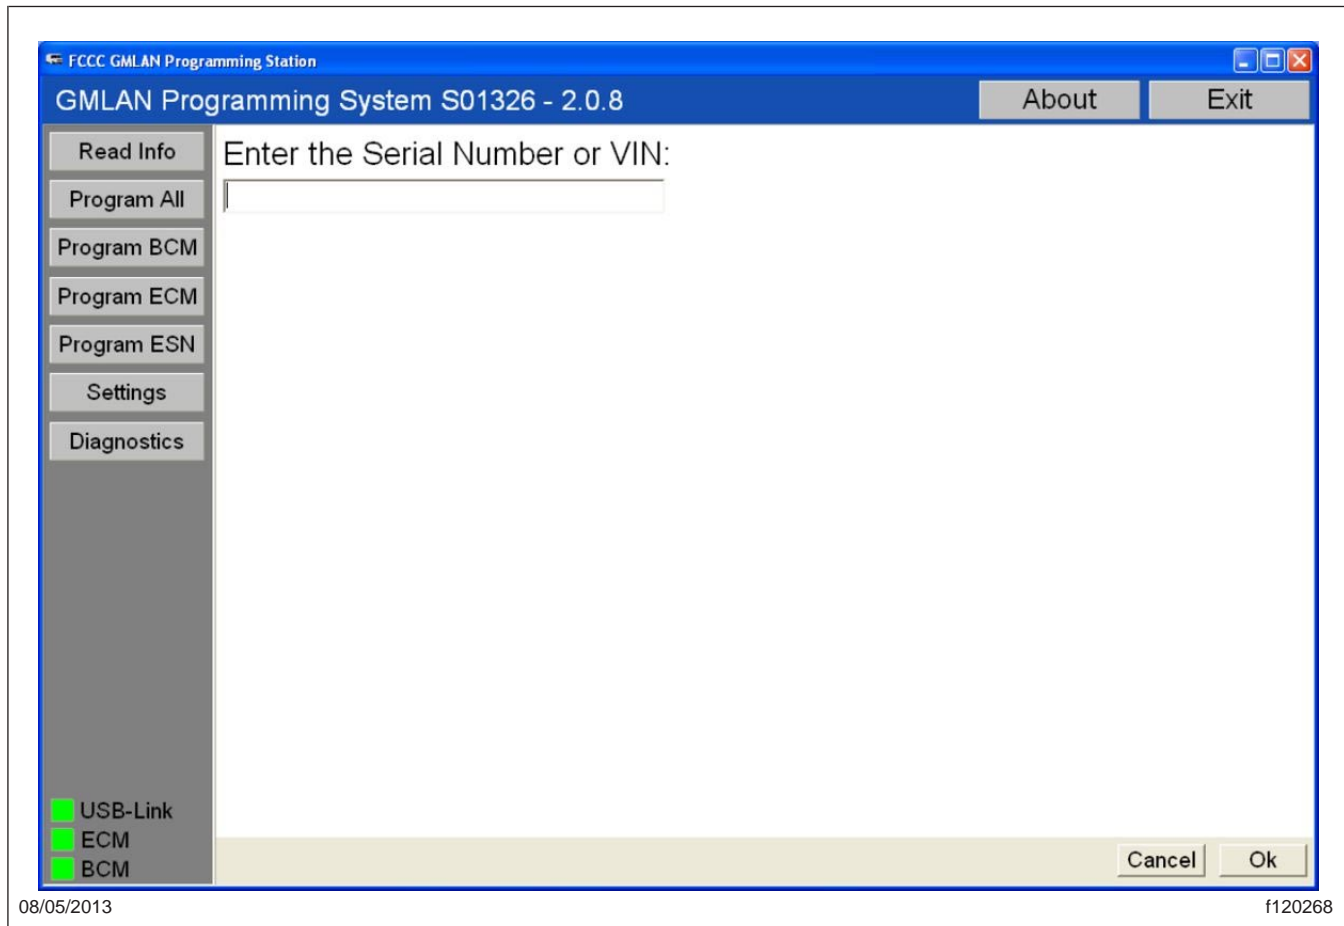

Fig. 3, Entering the VIN
3. Next, enter the vehicle identification number (VIN) and click "Ok" at the bottom right of the screen. Either the complete VIN can be entered or the last six digits. See Fig. 3.